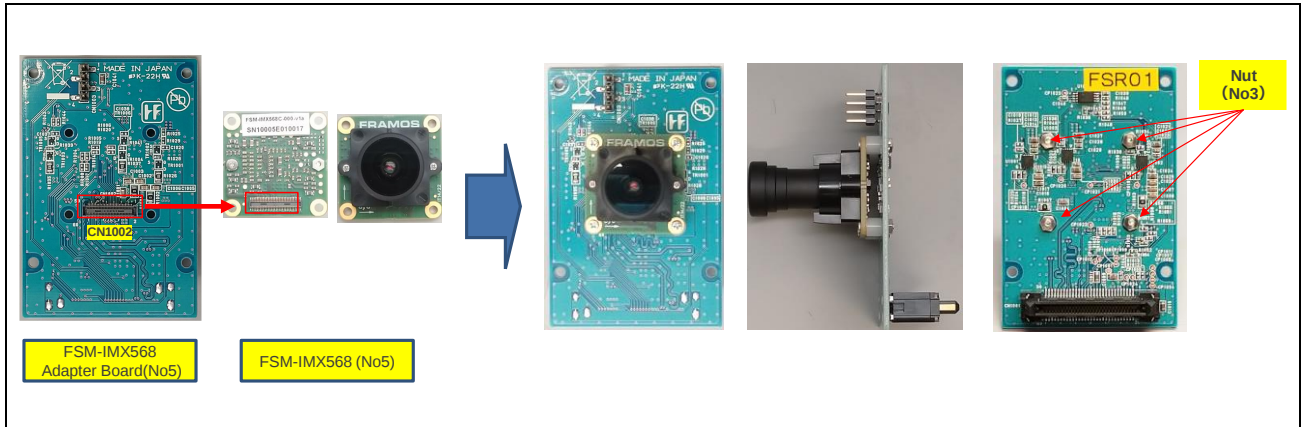

Figure 3.1-5 Assemble FSM-IMX568 to FSM IMX568 Adapter Board
3. Assemble FSM-IMX568 to FSM IMX568 Adapter Board (See **Figure 3.1-5**)